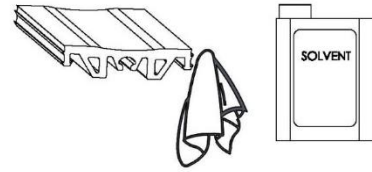

Figure 2
2. Position the elastomeric seal into position and push the seal bulbs into the extrusion channels as shown. Use a seam roller as necessary to make sure the bulbs are seated all the way into the channel (stagger seams, as necessary). **See Figure 2**
- Using a solvent (by others) that is safe for elastomeric materials clean the ends of the seals. **See Figure 2**